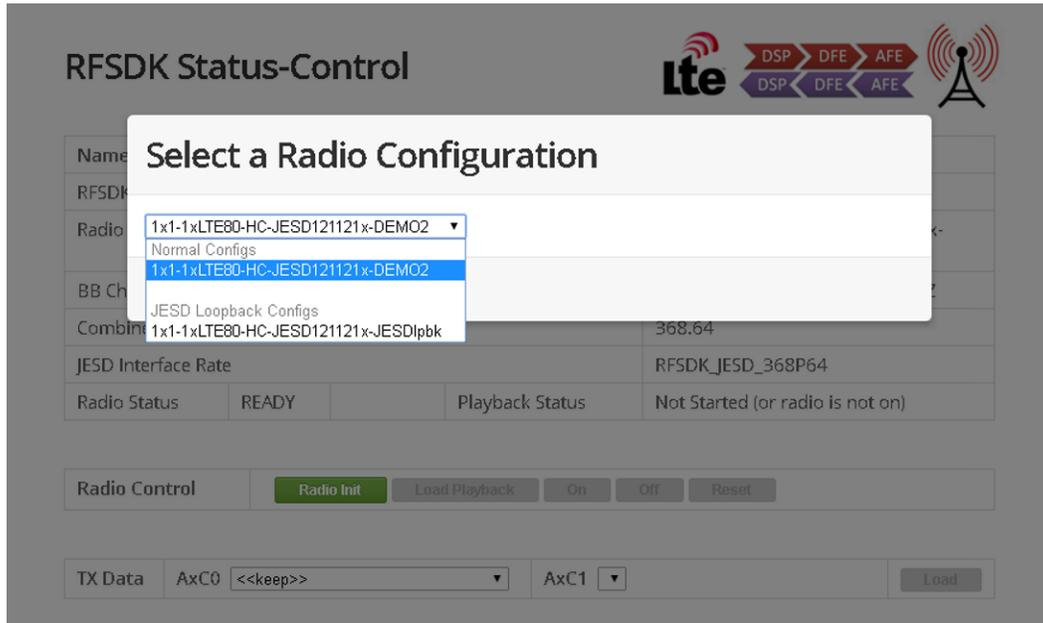

Figure 17. Radio Configuration Selection
7. Press the *Select* button once the reset is complete to open the *Radio Configuration Dialog*, as shown in Figure 17.